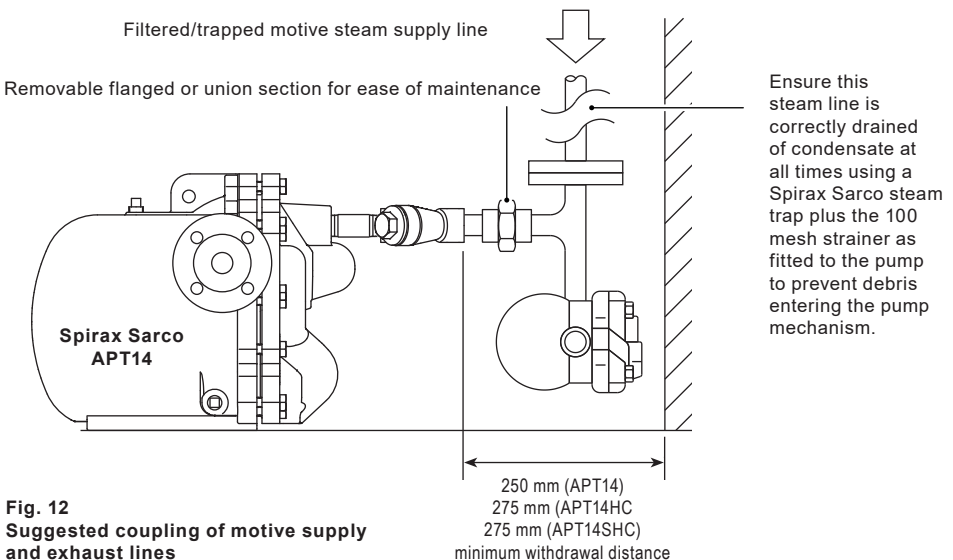

Fig. 12
To prevent condensate backing up into the equipment being drained, it is recommended that the inlet pipework is sufficiently sized to accumulate condensate during the pump's discharge cycle. Generally a length and diameter of pipe to accommodate the following condensate capacity will be sufficient: 4 litres (1.1 gallons) for an APT14 or 8 litres (1.76 gallons) for an APT14HC and APT14SHC. It is recommended this condensate reservoir is situated at least 1 pipe diameter below the process outlet but as high as possible above the APT inlet (up to 1 metre (40")). It is essential that a Spirax Sarco Y-type strainer is fitted at the condensate inlet of the APT14, APT14HC and APT14SHC, as shown in Figure 12.
4.3 Connections (refer to the installation diagram, Figure 12)